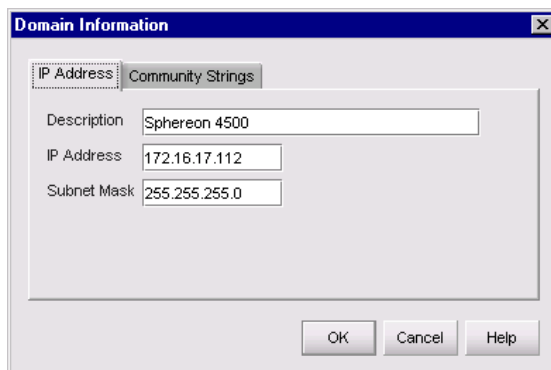

Figure 4-78 Domain Information Dialog Box
- d. Select (highlight) the entry representing the reset switch in the *Available Addresses* window and click *Change*. The *Domain Information* dialog box displays (Figure 4-78).